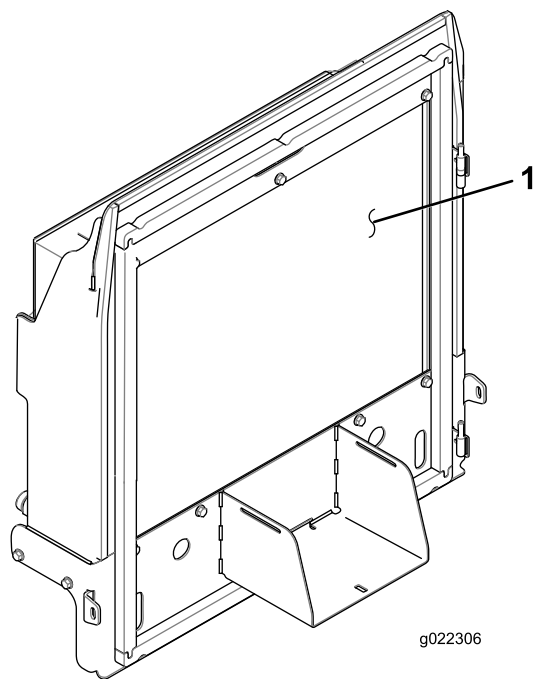

Figure 86
4. Thoroughly clean both sides of the radiator and oil cooler (Figure 86) with compressed air.